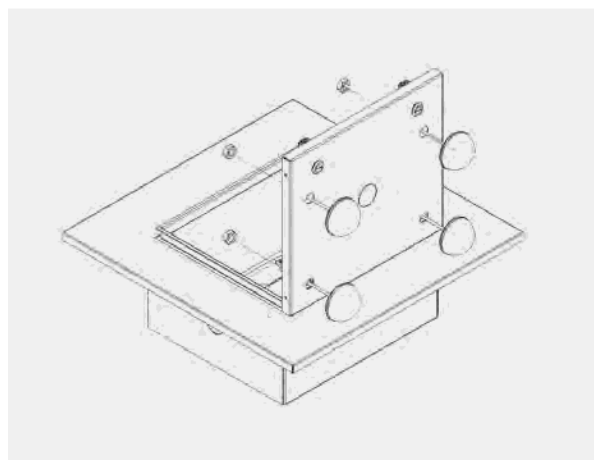

Figure 3
Step 3 – (Optional) With the desired number of holes opened, attach antennas (such as Oberon's BMANT or DMDUAL) and DAS antennas by inserting the cables through the door holes. Fasten the antennas to the door per the antenna manufacturer's instructions. To retain the water and dust resistance of the enclosure, antennas should have a gasket to fill the opening. After installation, connect the *RF coax* cable from the *antenna* to the *access point* (Figure 3). If using Bulkhead connectors, use Oberon Bulkhead connectors with provided o-ring (P/N 35-NFBLKHD) to maintain water tightness.